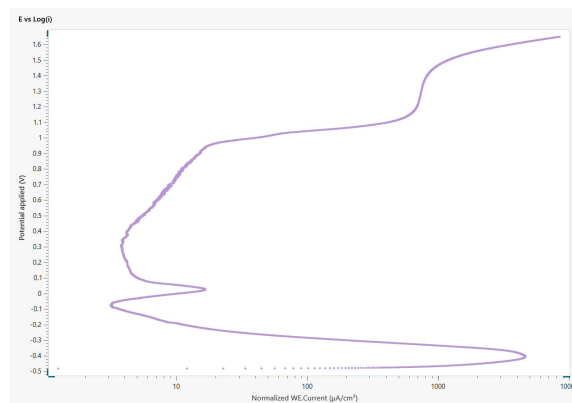

Figure 2. The corresponding plot of $\log(j)$ vs E for the corroding sample of stainless steel in 0.5 mol/L sulfuric acid solution.
The data is transformed according to ASTM standard G3 in **Figure 2**, where a plot of the potential (E) vs the log of the current density (j) is shown.
Figure 3. This plot is identical to Figure 2, but the regions in the plot are now highlighted. The Active Region is shown in blue, the Passive Region in red, the Transpassive Region in green, and the Secondary Passivity Region in orange.
increase much with the applied potential. This is termed the Secondary Passivity Region (**Figure 3**, in orange). Further from this, oxygen evolution can occur, which is not shown in **Figure 2**.